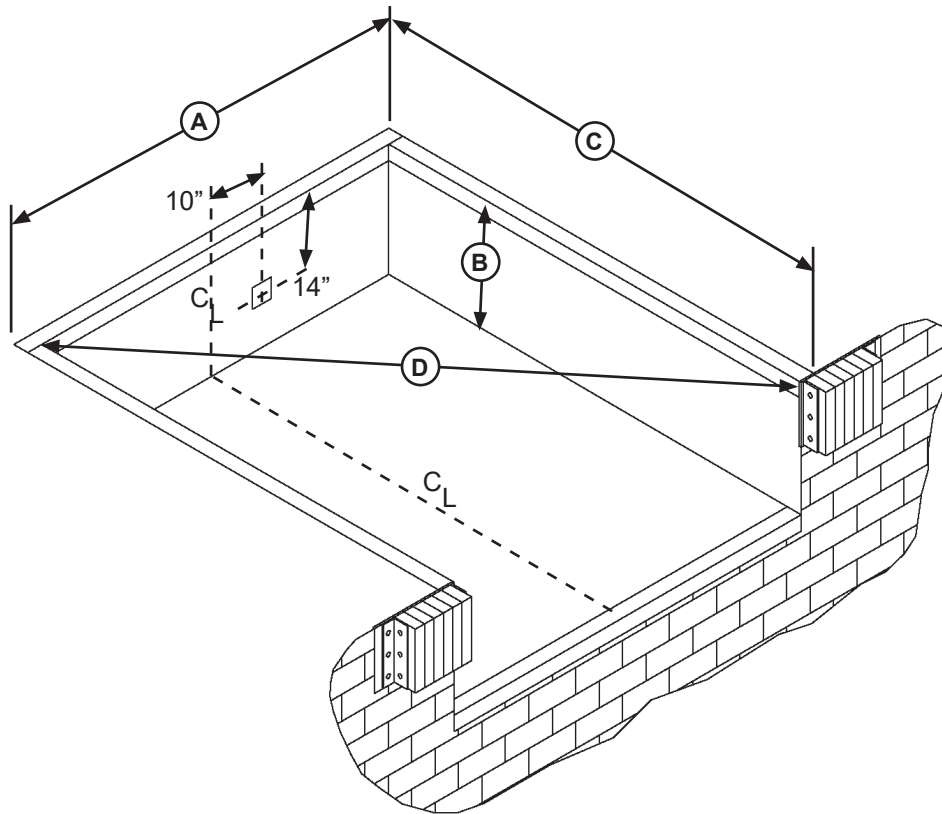

Figure 5
2. Check the entire dock leveler pit for proper construction according to approved/certified pit drawings. Make sure pit is square by making the following measurements (see Figure 5):
- Measure pit width distance (A) at both front and rear of pit.
- Measure dock floor-to-pit floor distance (B) at all four corners.
- Measure pit length distance (C) at both sides.
- Measure corner-to-corner (diagonal) distance (D) at both sides. Take measurements at dock floor level and at pit floor level.